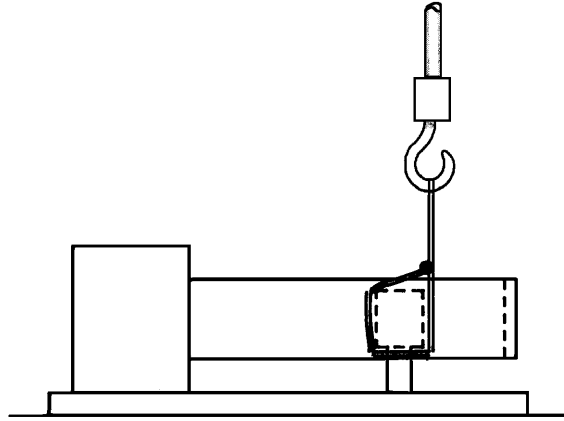

Figure 3-1. Righting a Load Frame Using a Crane
2. Attach the two lifting slings to the crosshead and secure them to the crane hook as shown in Figure 3-1 on page 3-6. If you use chains in lieu of lifting slings, wrap protective material around the crosshead to protect the crosshead from scratching and marring.